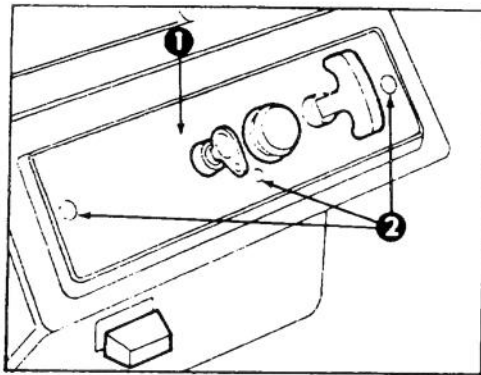

Figure 15
### REPLACING SPARK PLUG — (Fig. 15,16&17)
1. REMOVE CONTROL PANEL (Fig. 15) — Remove (3) capscrews securing control panel to housing. Remove ignition key and lift off panel, allowing it to hang on recoil rope.